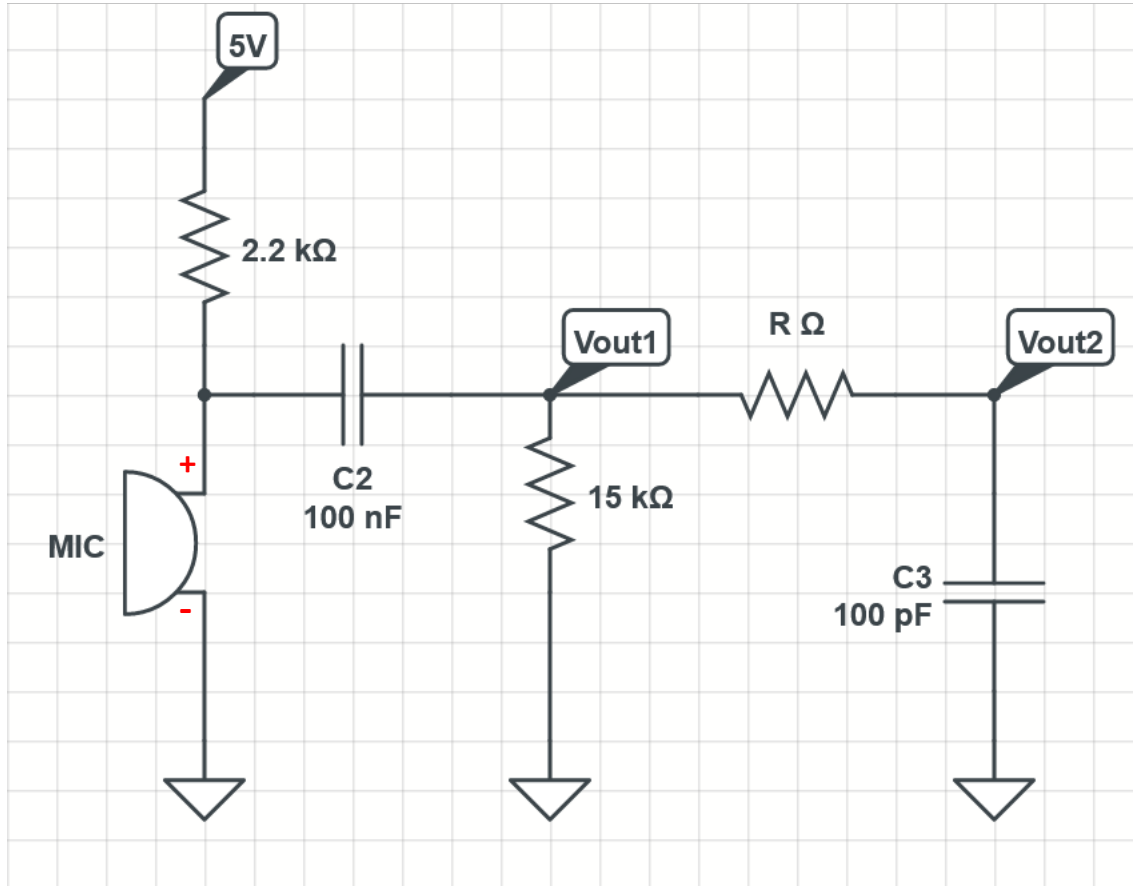

Figure 4: Microphone circuit with the Low Pass Filter
9. Choose the value of R in closest to the calculated Resistor (This should be around 390 kΩ) and connect the circuit as shown in Figure 4. Observe the output waveform by connecting Vout2 to 'CHA' and verify if the noise has been suppressed. You can measure the amplitude of the noise as described in **Setups: Section C. Measurements using Bitscope**. Save the figure frequency plot in your learning journal.